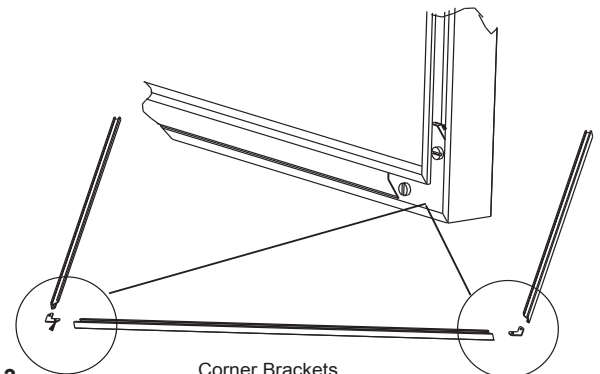

Figure 20.3
6. Align the 2 screws in the top surround piece to the 2 alignment holes on the appliance top. Secure in place (**Figure 20.3**).